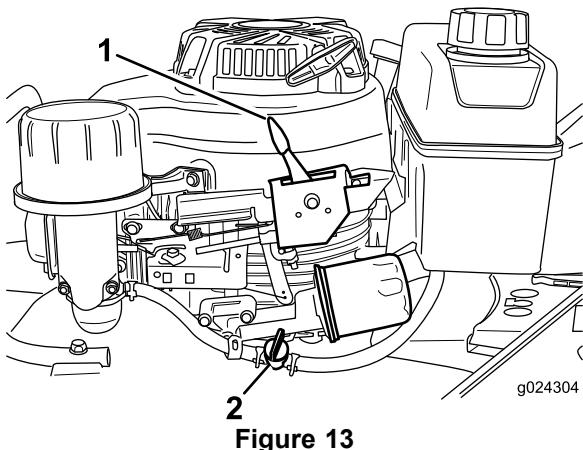

Figure 13
2. Open the fuel valve (Figure 13).
3. Move the throttle-control lever (Figure 13) to the Choke position.
Release the blade-control bar and move the throttle-control lever (Figure 13) to the Stop position.
Note: Close the fuel valve (Figure 13) if you will not be starting the engine soon afterward.